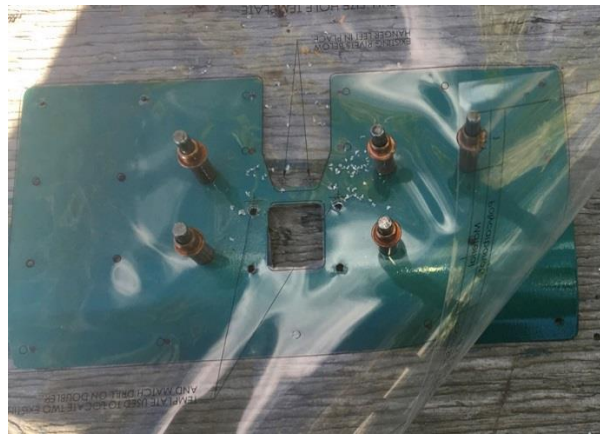

Figure 5: Match drilling existing rivet holes in inboard doubler from template
9. Using the newly drilled holes in the clear plastic templates from the previous step, match drill these added rivet holes through the inboard false spar doubler (PSTOL-0066) and outboard false spar doubler (PSTOL-0065). Position the template on the doubler and cleco to the doubler. Make sure the template is flush against the doubler to match its curve. See Figure 5.